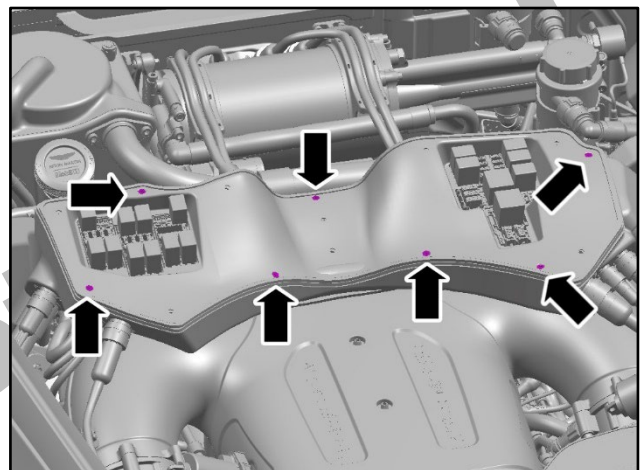

Figure 7
7. Remove and discard the seven screws (refer to Figure 7).